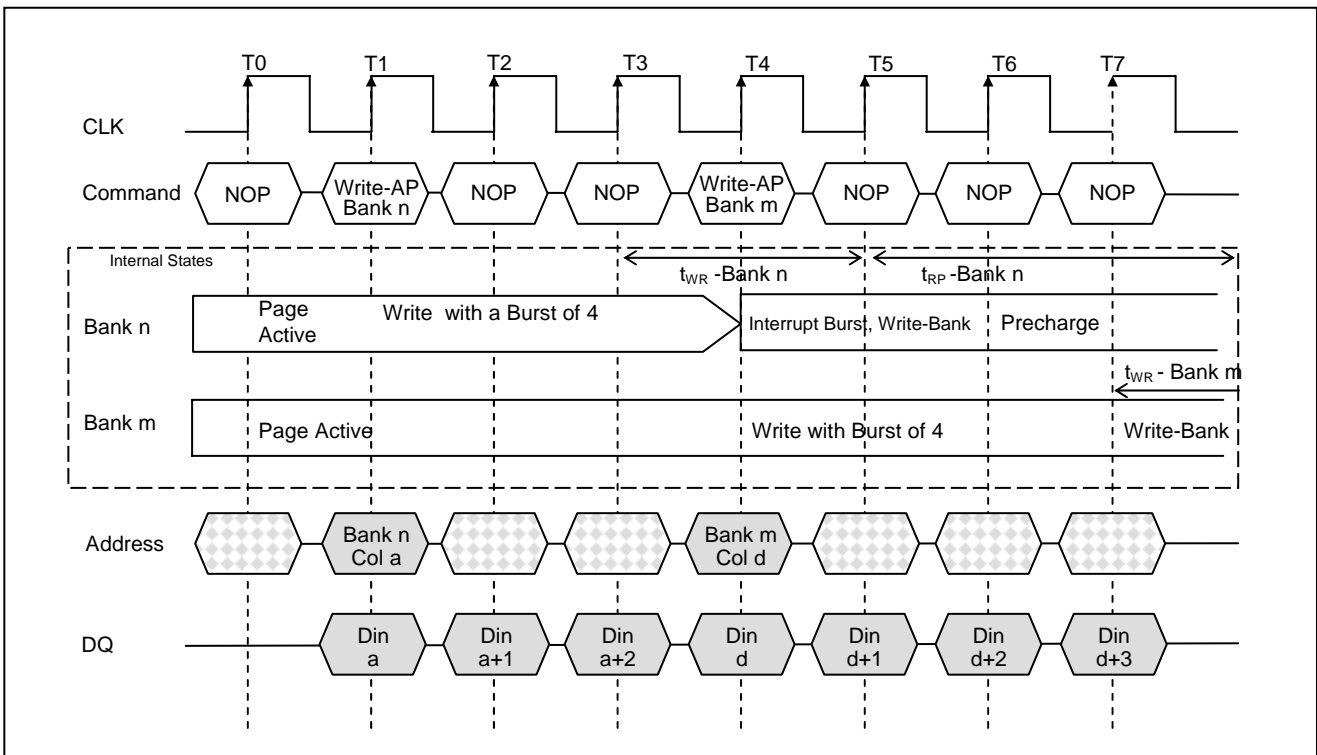

Figure 28. Write with Auto Precharge Interrupted by a Write with Auto Precharge
4. Interrupted by a Write (with or without auto Precharge): A Write to bank m will interrupt a Write on bank n when registered. The Precharge to bank n will begin after  $t_{WR}$  is met, where  $t_{WR}$  begins when the Write to bank m is registered. The latest valid data Write to bank n will be data registered one clock prior to a Write to bank m. (Figure 28.)